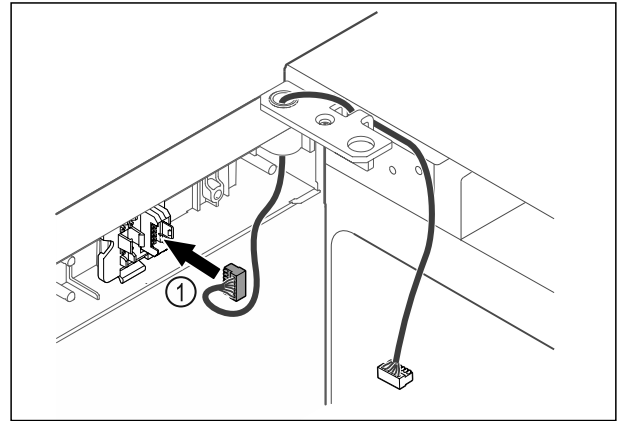

Fig. 66
- ▶ Put the plug Fig. 66 (1) in the plug holder.